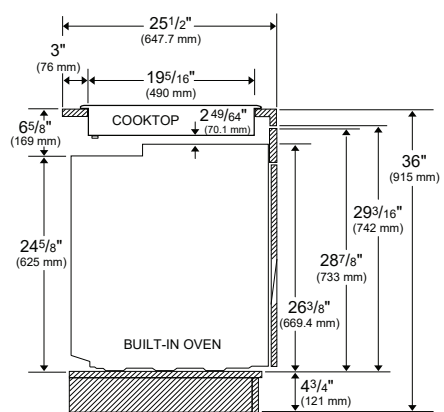

Figure 5
5. If the cooktop installed above a oven; there is no need to be installed the separator. Install according to the dimensions shown in Figure 5